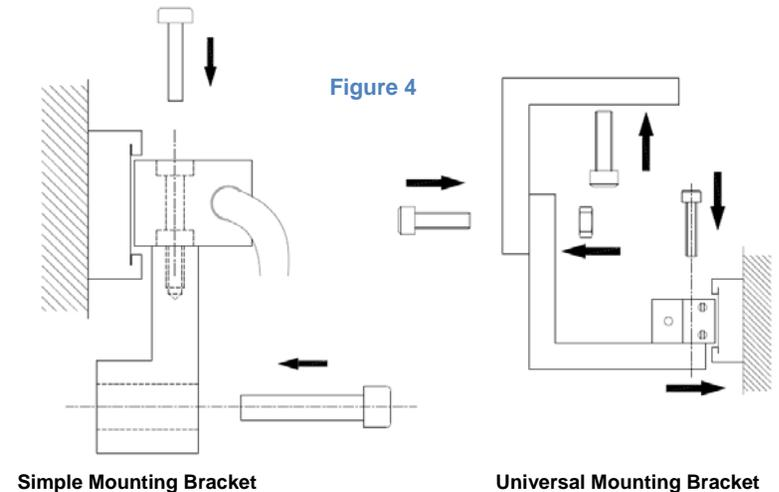

Figure 4
- ☞ The reader-head mounting bracket should be installed as per Figure 4 such that correct gap is maintained between the reader head and the scale.